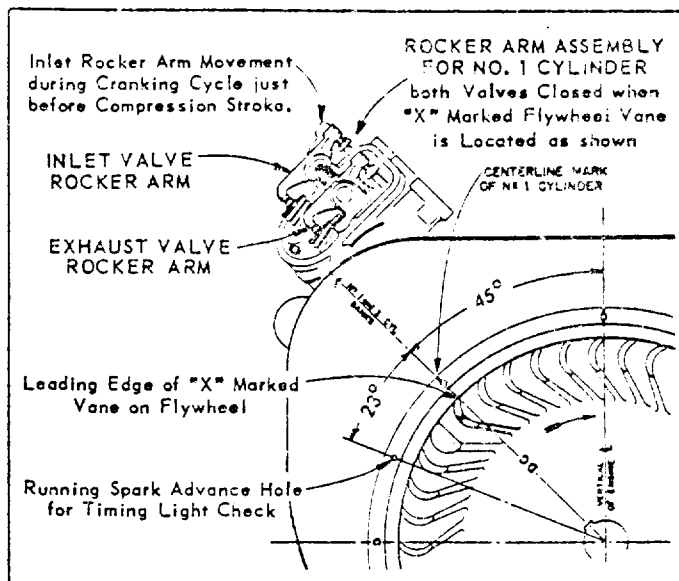

Fig. B-10
### TIMING MARKS (Refer to Fig. B-10)
**TIMING INSTRUCTIONS:** The No. 1 piston must be on top dead center of the compression stroke before distributor can be mounted. With reference to Fig. B-10, this can be accomplished as follows: